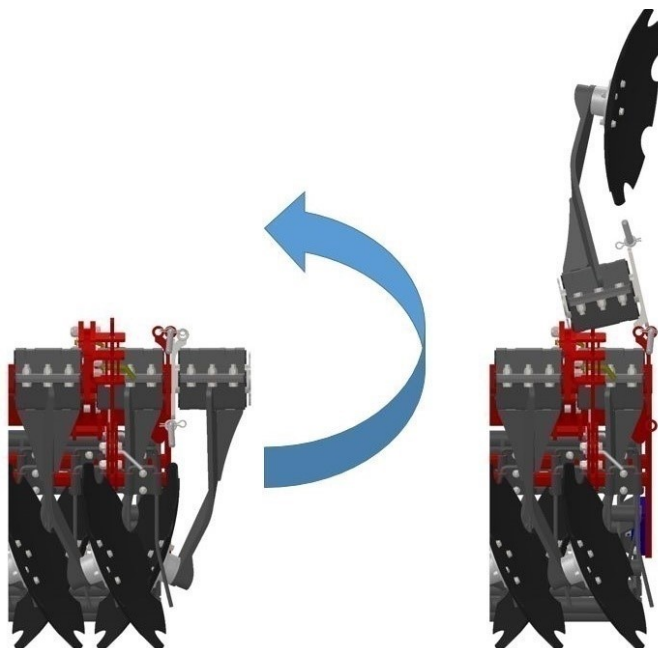

Figure 3. Working and transport positions (folded side sections)
- Set the side sections of the unit in the transport position and secure them with pins against their extending during the passage (see Fig. 3);